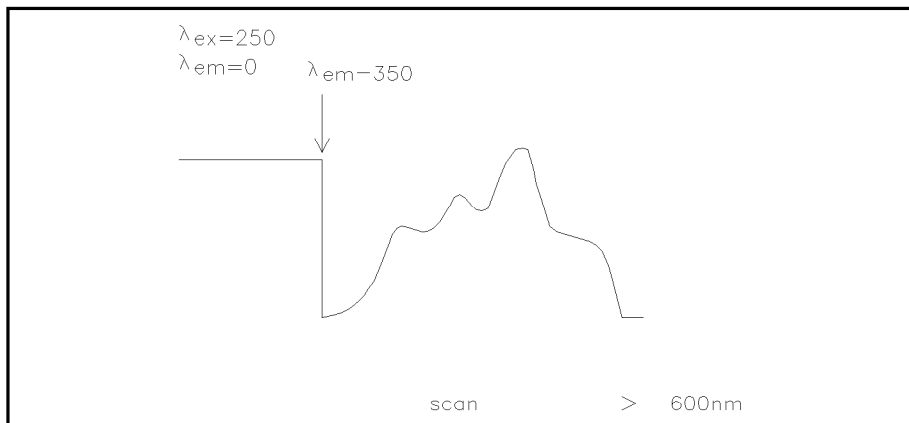

Figure 1-6. Scanning First Peak For Optimum Emission Wavelength
4. Press and hold down the **[▲]** key to increase the excitation wavelength. As you increase the emission wavelength (EM) the intensity of the fluorescence (F) increases or decreases. The plot will be similar to Figure 1-6.